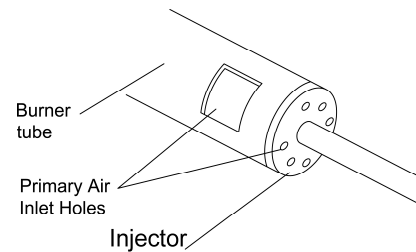

Figure 26 Inject or holder on outlet burner tube
2. Inspect burner, pilot and primary air inlet holes on injector holder for dust and dirt (see Figure 26).